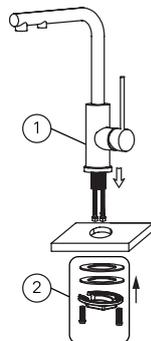

Fig. 3
3. Fix the faucet on a counter with an included set of fasteners (fig. 3).